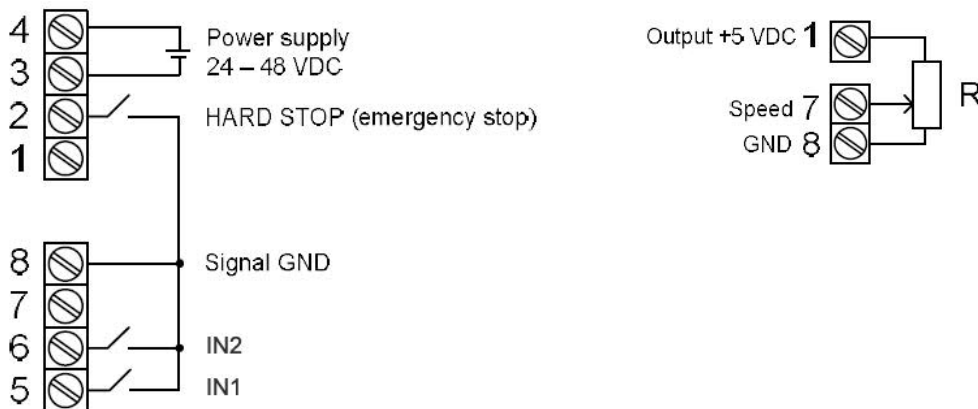

Fig. 3. Connection of power supply and external control elements
2. Connect external control elements according to the connection diagram schemes in fig. 3: